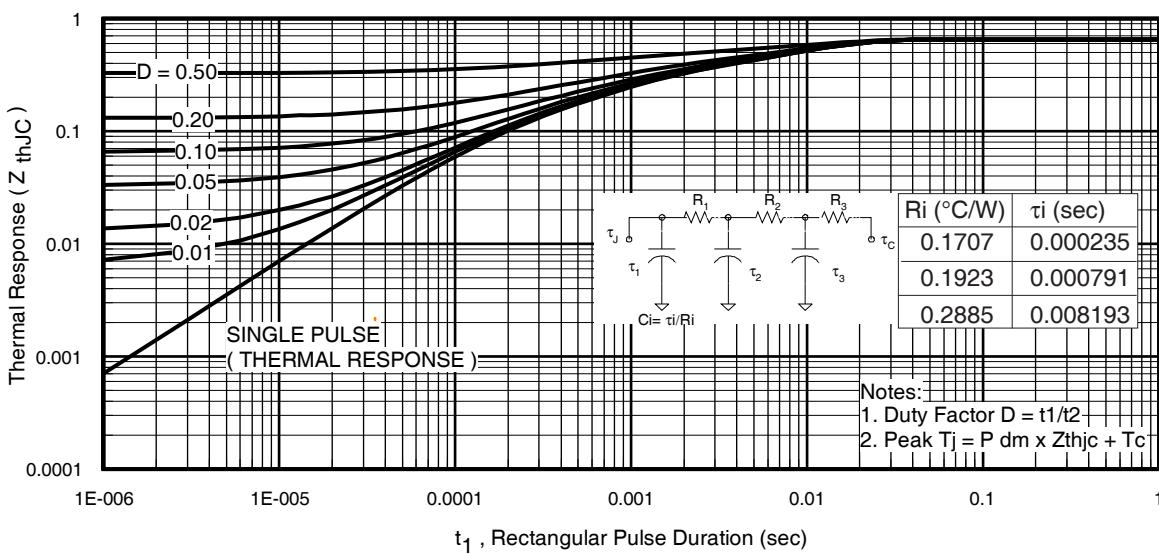
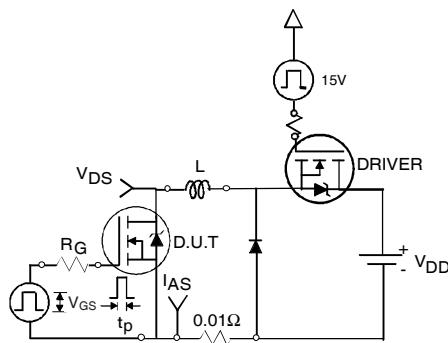

Fig 11. Maximum Effective Transient Thermal Impedance, Junction-to-Case
Fig 12a. Unclamped Inductive Test Circuit
- ① Repetitive rating; pulse width limited by max. junction temperature. (See fig. 11).
- ② Limited by T_{Jmax} , starting $T_J = 25^\circ\text{C}$, $L=0.064\text{mH}$, $R_G = 25\Omega$, $I_{AS} = 88\text{A}$, $V_{GS} = 10\text{V}$. Part not recommended for use above this value.
- ③ Pulse width $\leq 1.0\text{ms}$; duty cycle $\leq 2\%$.
- ④ $C_{oss\ eff.}$ is a fixed capacitance that gives the same charging time as C_{oss} while V_{DS} is rising from 0 to 80% V_{DSS} .
- ⑤ Limited by T_{Jmax} , see Fig.12a, 12b, 15, 16 for typical repetitive avalanche performance.
- ⑥ This is applied to D²Pak, when mounted on 1" square PCB (FR-4 or G-10 Material). For recommended footprint and soldering techniques refer to application note #AN-994.
- ⑦ R_θ is measured at T_J of approximately 90°C .
3. Equation below based on circuit and waveforms shown in Figures 12a, 12b.
- $Z_{thJC}(D, t_{av})$ = Transient thermal resistance, see figure 11)